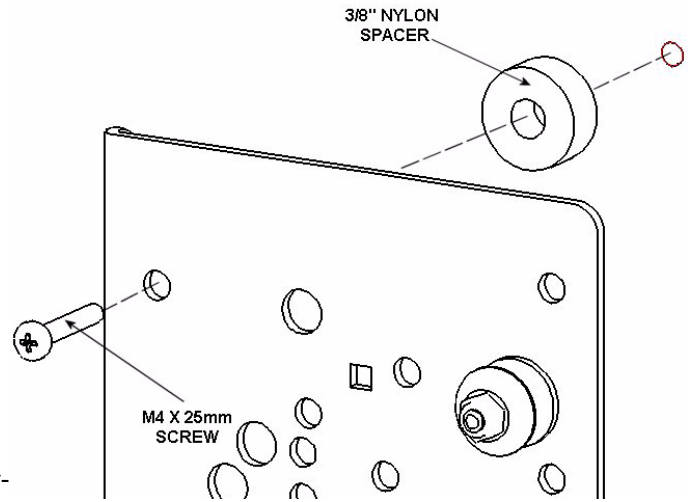
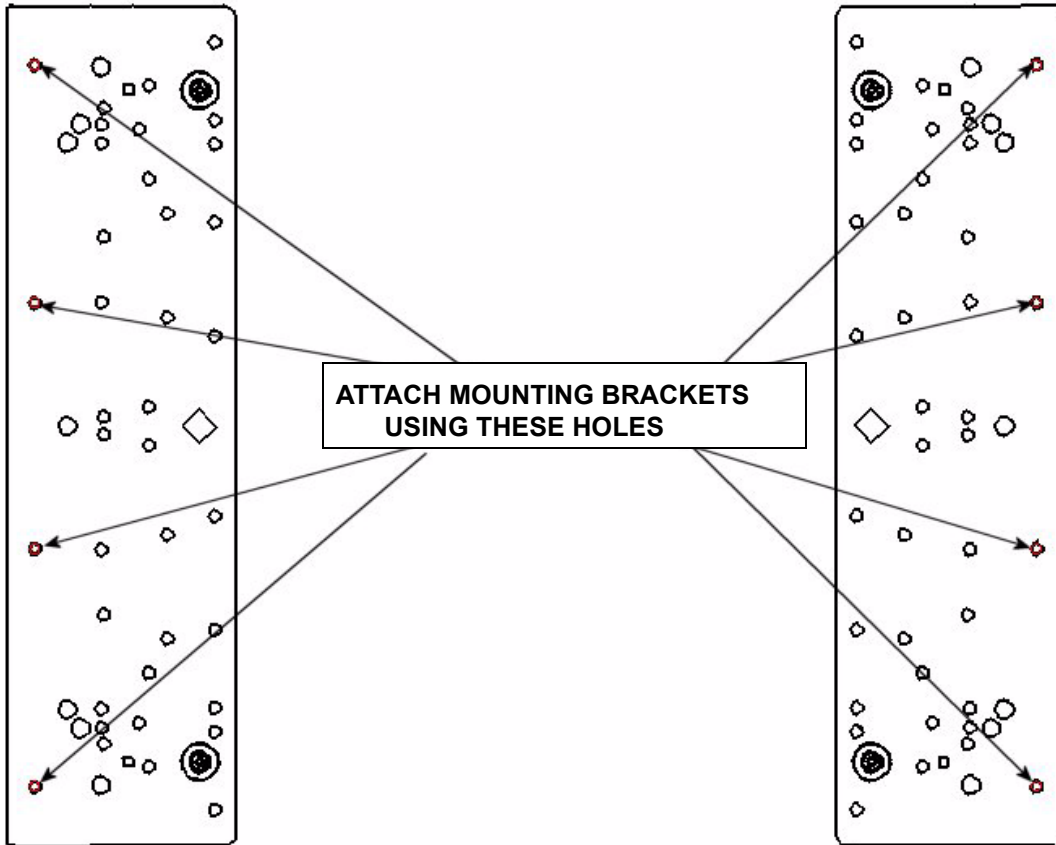

Figure 6. Spacer Installation for Group 2
Figure 7. Bracket Attachment for Group 2
3. Place eight 3/8" Nylon spacers over the mounting holes on your display (see Figure 6).
4. Place the interface brackets over the Nylon spacers (see Figure 6 and Figure 7).
6. Using the hardware in the parts bag labeled B, attach the interface brackets to your display (see Figure 6 and Figure 7). Do not overtighten the mounting screws.